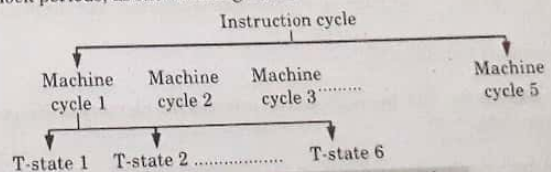

Fig. 2.7.2. Relationship between instruction cycle, machine cycle and T-state.
- In general, one instruction cycle consists of one to five machine cycles and one machine cycle consists of three to six T-states, i.e., three to six clock periods, as shown in Fig. 2.7.2.